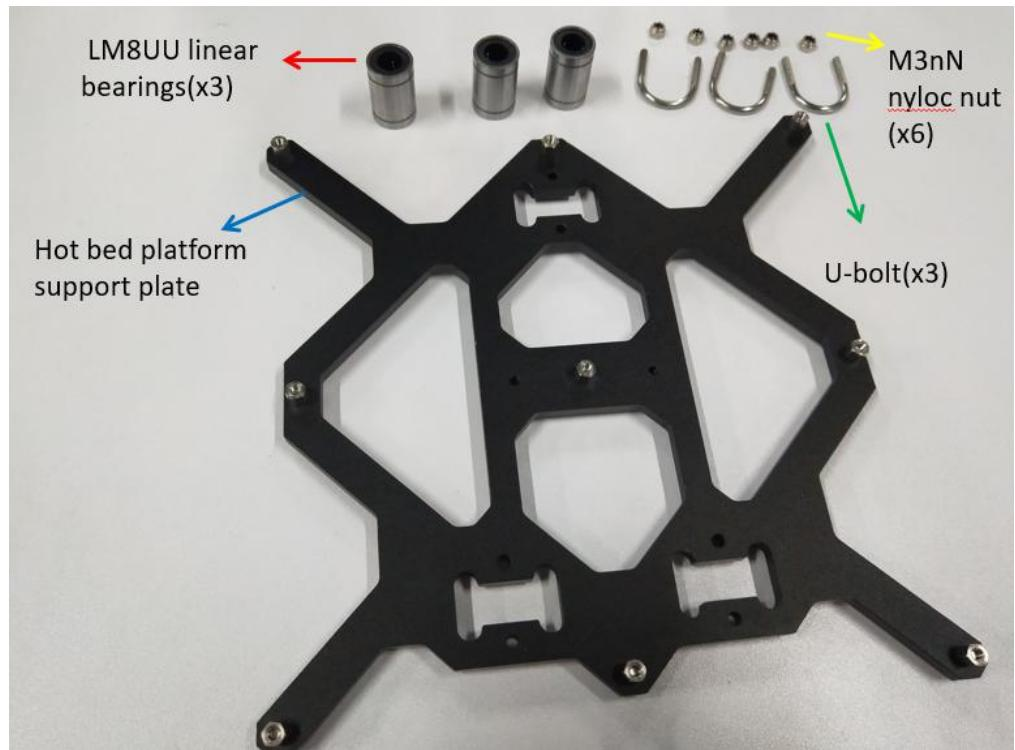

Figure 1.6.1
**Step 1-6-1:** As shown in Figure 1.6.1, prepare the materials and check whether the quantity of materials is correct, and prepare for the next installation.